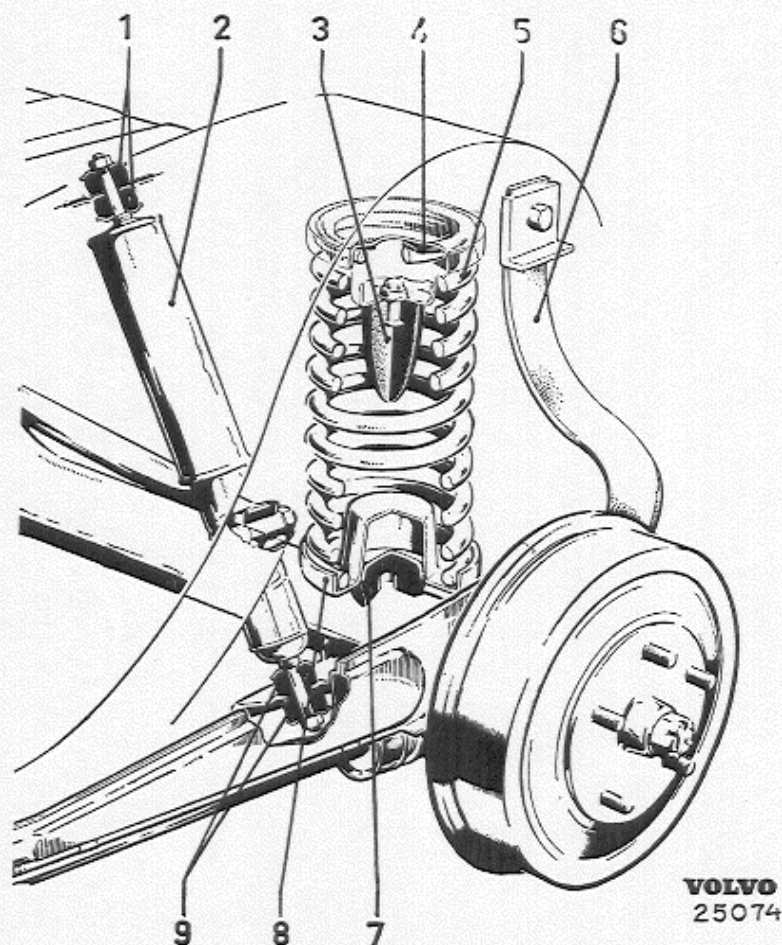

Fig. 5. Rear spring and shock absorber.
Fitting is carried out in the reverse order to that used when removing. Make sure that the rubber pad (7, Fig. 5) comes into its correct position on the rear axle.
On late production cars there is also an upper rubber spacer (4, Fig. 5).
1. Remove the upper attaching nut, washer and rubber bushing from the luggage compartment. See Fig. 5.
3. Fitting is carried out in the reverse order to that used when removing. See Fig. 5. Fit the washer with the larger hole on the inside of the lower rubber bushing. Tighten the nuts until $\frac{1}{8}$ " (3mm) of the threaded end of the attachment is outside the nut.